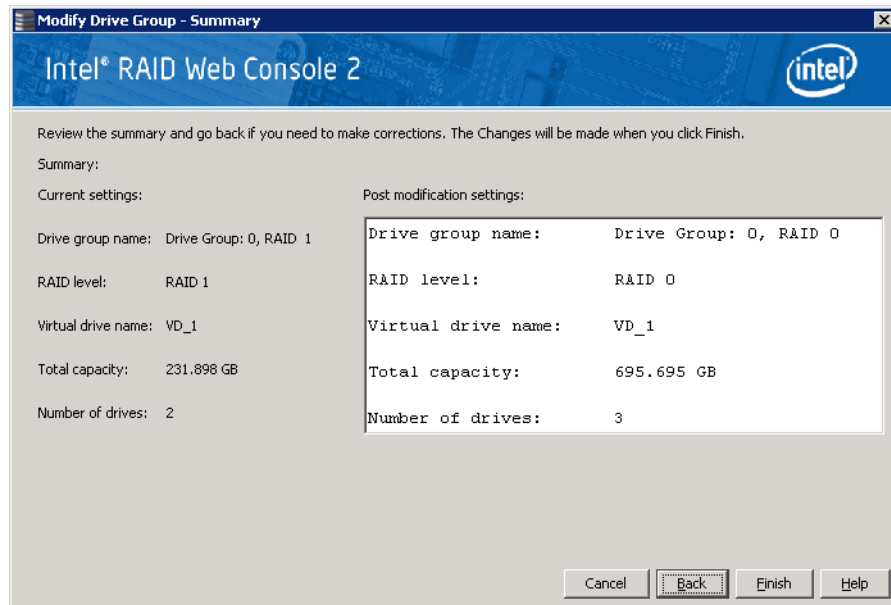

Figure 73. Changing RAID Level
4. When you are finished removing disk drives, click **Next**. The next screen displays, which allows you to review the summary and go back if you need to make corrections as shown in Figure 73.